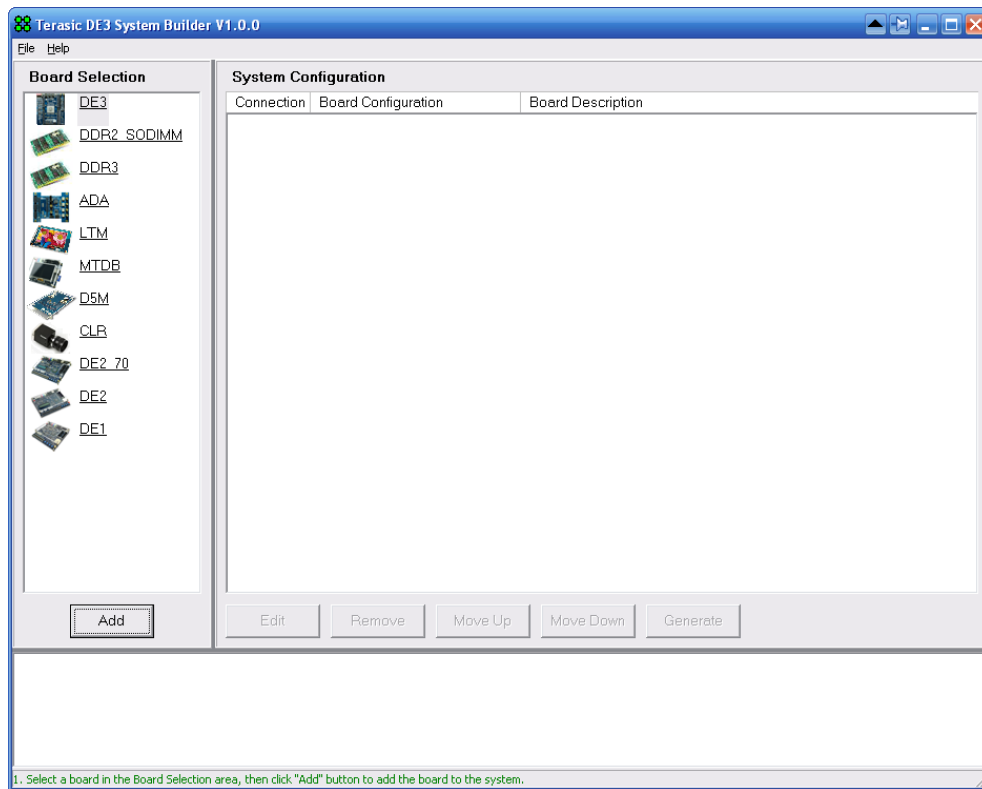

Figure 4.2. The DE3 System Builder window
- Execute **DE3\_System\_Builder.exe** on the host computer. The DE3 System Builder user-interface will appear, as shown in Figure 4.2.